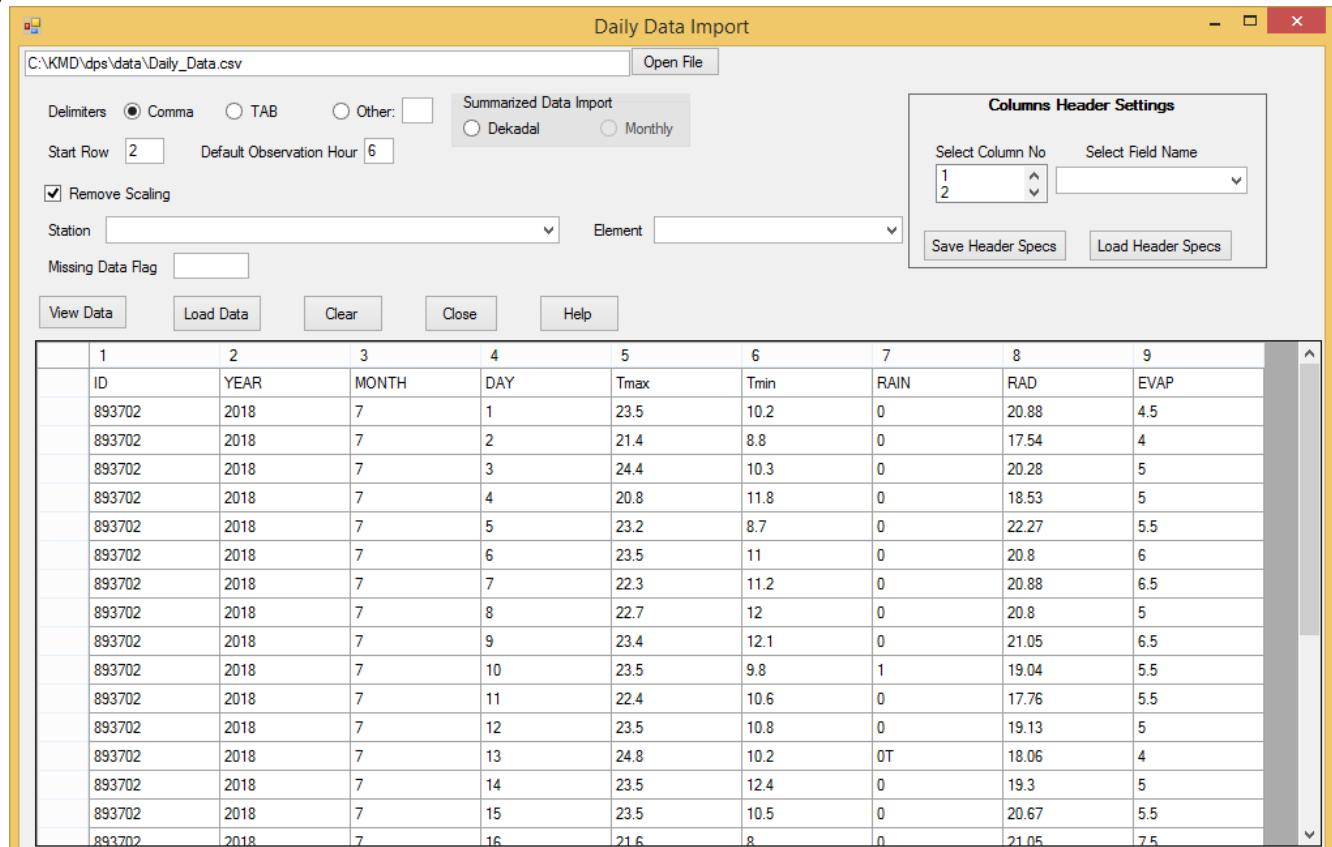

Figure 63: Multiple column data Import
- (iv) After the file has been located, click **Open** in the file open dialog. The filename with its path will then be shown in the “**Open File**” box. See *Figure 63*,
- (ix) When all the above steps have been completed click “**View Data**” button. The table in the dialog is then populated with the data from the selected file. The column headers will be serialised with numbers from 1 up to the last column of that data, as shown in *Figure 63*.